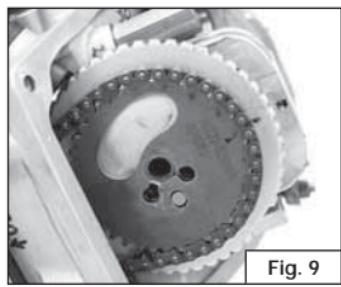

Fig. 9
- Remove the sprocket attached to the camshaft, and slide off the distribution chain, taking care that it doesn't fall inside the crankcase (Fig. 9).
- di non farla cadere nel basamento (Fig. 9).
- qu'il ne tombe pas dans l'embase moteur (Fig. 9) .